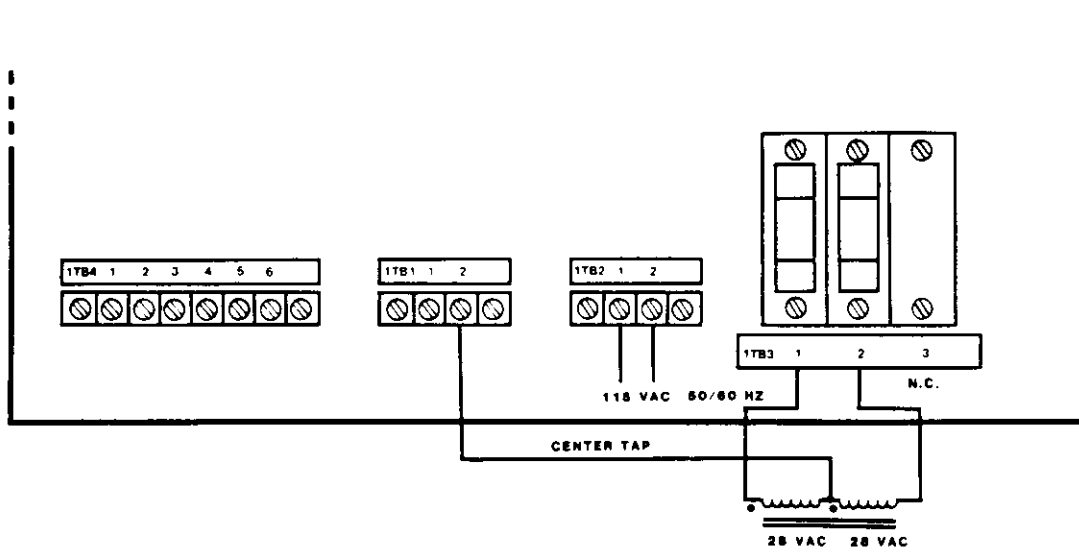

FIGURE 3-4: INPUT POWER CONFIGURATIONS FOR THE 4020 SERIES THREE AXIS BASE PLATE
** SEE FIGURES 3-4, 3-5
Input power connections to the three axis base plate are made at terminal blocks 1TB1, 1TB2, and 1TB3, as shown in figure 2-10 (top view). Figure 3-4 shows the input power arrangements for the 4020 SERIES Three Axis Base Plate.